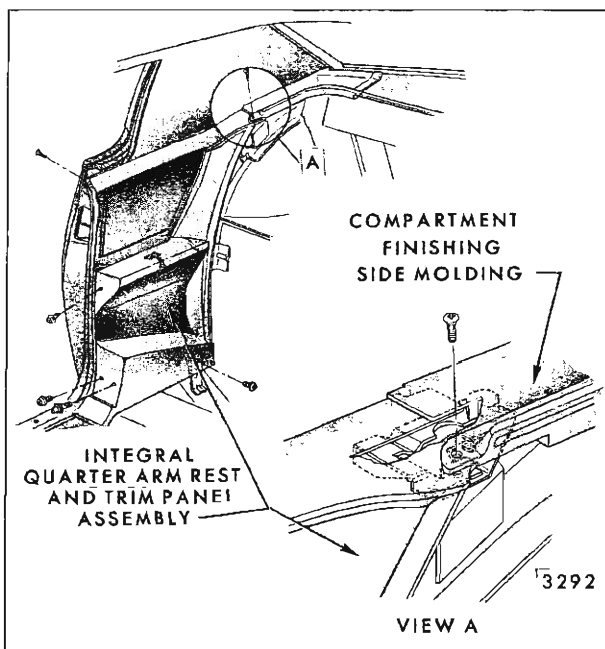

Fig. 14-21—Integral Rear Quarter Arm Rest and Trim Assembly - "69347" Style
- C. Arm rests which are an integral part of the quarter trim assembly and cannot be removed or serviced independently (Fig. 14-21).
**NOTE:** On all Cadillac styles, the arm rest is an integral part of the quarter trim assembly and must be removed as an assembly with the quarter trim, as shown in Figure 14-21.
4. On Cadillac "E" styles, remove screw securing compartment side finishing molding to quarter trim (Fig. 14-21).